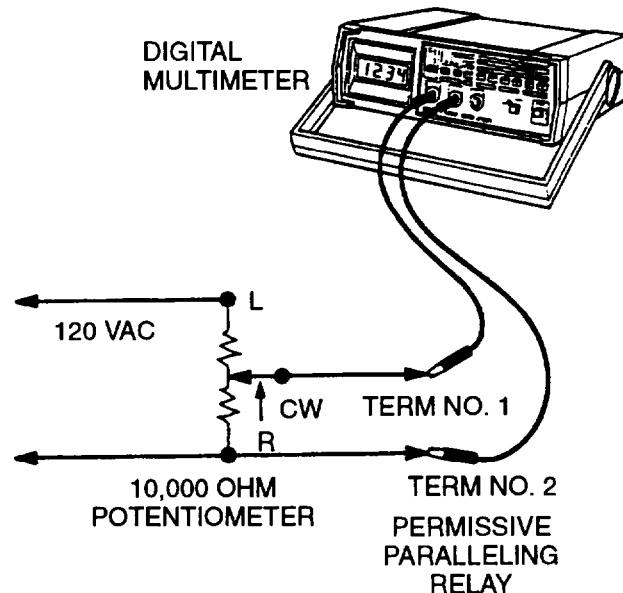

FIGURE 2-15. Permissive Paralleling Relay Test Set-up
- f. Set up a test circuit as shown in FIGURE 2-15. Connect 120 VAC source (can be obtained from convenience receptacle) to terminals L and R of potentiometer. Connect a wire from terminal C of potentiometer to terminal 1 of permissive paralleling relay. Connect a second wire from terminal R of potentiometer to terminal 2 of permissive paralleling relay. Set multimeter for AC volts and connect to terminals 1 and 2 of permissive paralleling relay.